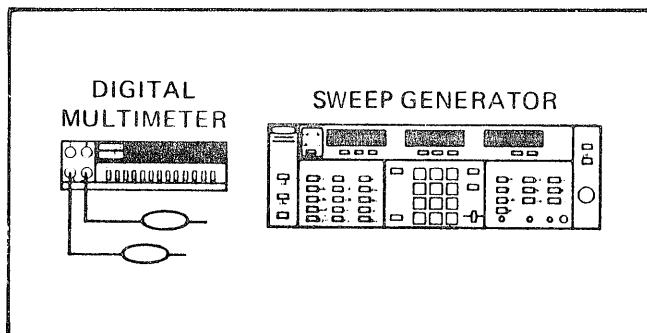

Figure 5-8. Setup for A5 Frequency Instruction Adjustments
1. Set up the test equipment as shown in Figure 5-8 and turn the equipment on.